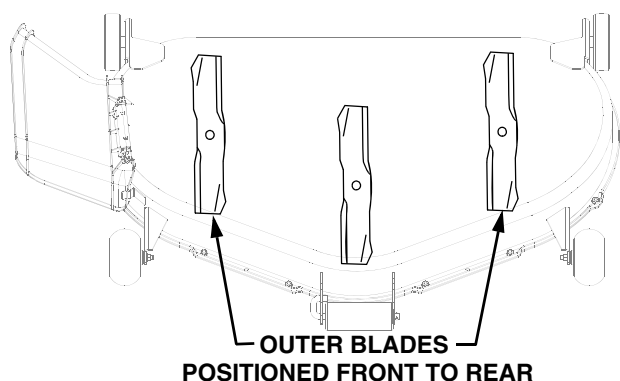

Figure 31
2. Position the mower blades so the ends of each outer blade point toward the front and the rear of the tractor (See Figure 31). Then lower the deck to a mid-height setting using the tractor implement lift handle.